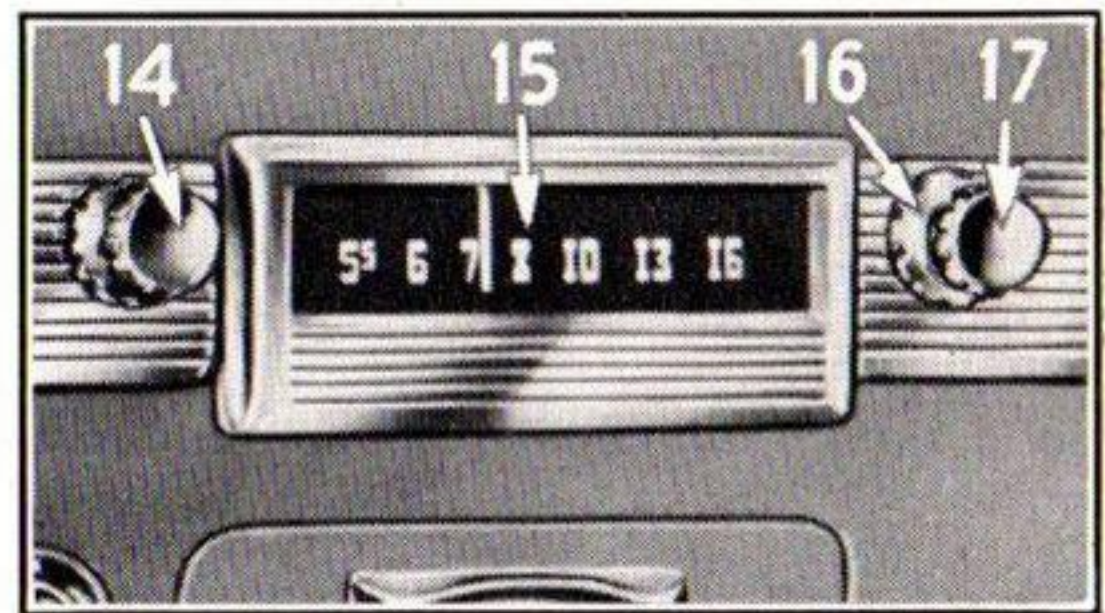

Figure 49
OFF-ON AND VOLUME CONTROL—To turn the receiver on, turn the volume control knob (17 Figure 49) on the right side, until a click is heard and the dial (15) is illuminated. To increase the volume, continue to turn the knob to the right. To shut off the receiver, turn control knob to the left until a click is heard.